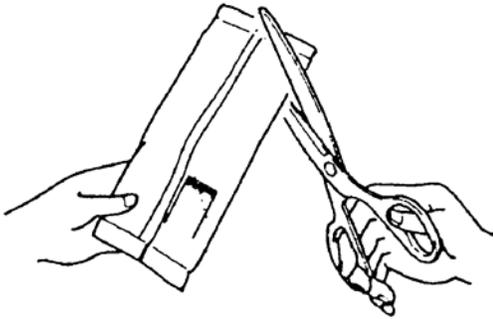

Figure 5-9
8. One at a time cut the corner of each packet and add the developer powder to the developer unit as shown in Figure 5-9 and 5-10.